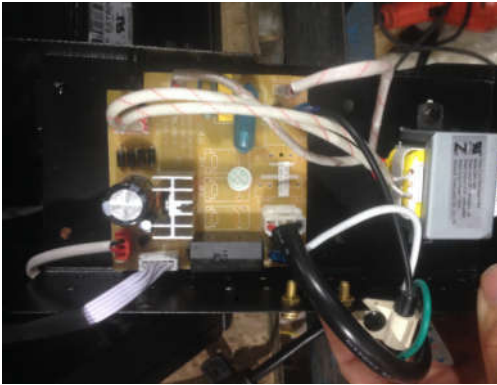

Figure 22
2. The power board & transformer are like below. (figure 22)